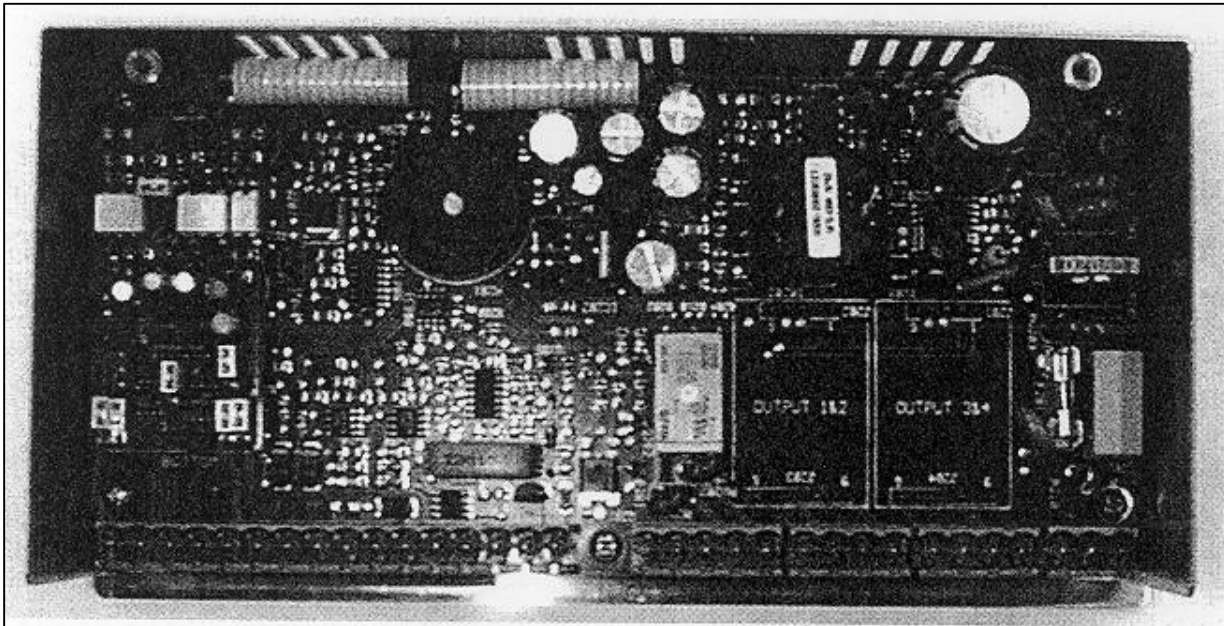

Figure 44. Controller rear view with Communications Card (left).
- c. Refer to Figure 44 for placement information. Be sure the card is seated firmly onto the headers.